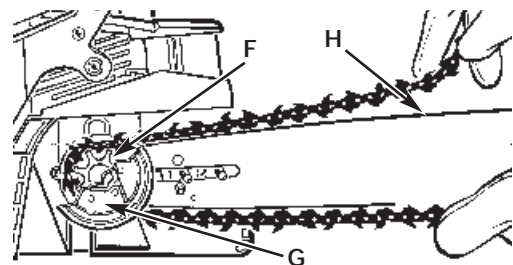

Fig. 25
2. Slip the chain around the sprocket (F) behind the clutch (G). Make sure the links fit between the sprocket teeth (Fig. 25).
3. Guide the drive links into the groove (H) and around the end of the bar (Fig. 25).